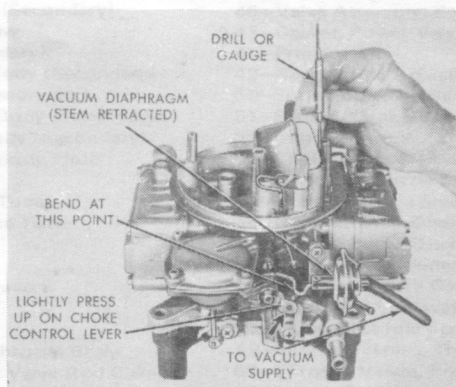

Fig. 9
Vacuum Kick Adjustment (Fig. 9)
1. With the engine running, position the fast idle tang (Fig. 9) (Cam position adjustment) to allow choke closure to kick position.